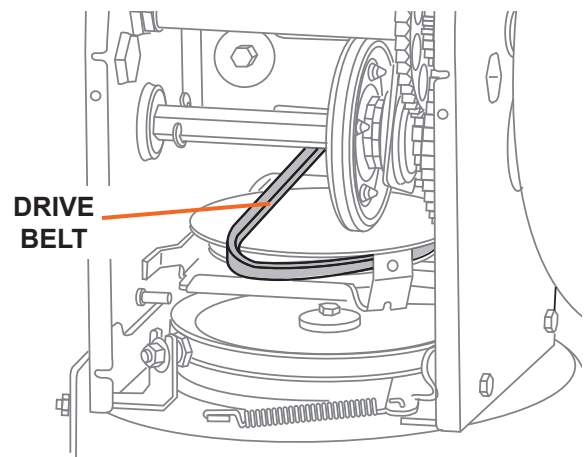

Figure 28
5. Remove the belt from the drive pulley, slip the belt between the support bracket and the drive pulley (see Figure 28).